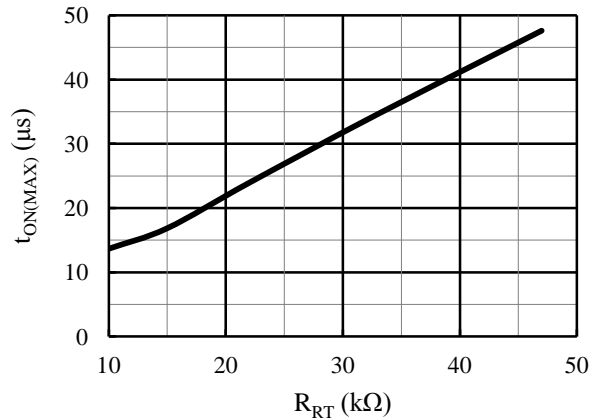

Figure 8-9 Relationship between R_{RT} value and $t_{ON(MAX)}$ value (IC design)
Figure 8-9 shows the relation between R_{RT} value and
$t_{ON(MAX)}$. The value of R_{RT} is set using Figure 8-9 and should be selected so that $t_{ON(MAX)}$ is more than $t_{ON(SET)MAX}$ of Equation (3).